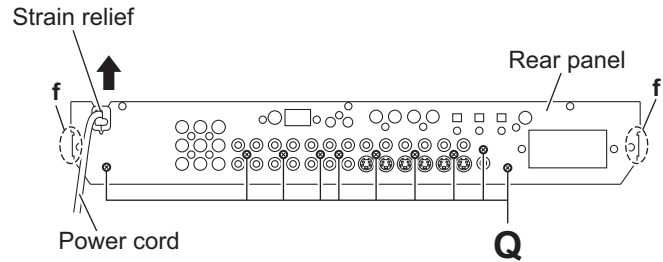

Fig.16
3.13 Removing the input board (See Figs.16 and 17)
- From the back side of the main body, remove the strain relief attaching the power cord in the direction of the arrow. (See Fig.16.)
- Remove the ten screws **Q** attaching the rear panel. (See Fig.16.)
- Release the engagement sections **f** and remove the rear panel from the main body. (See Fig.16.)